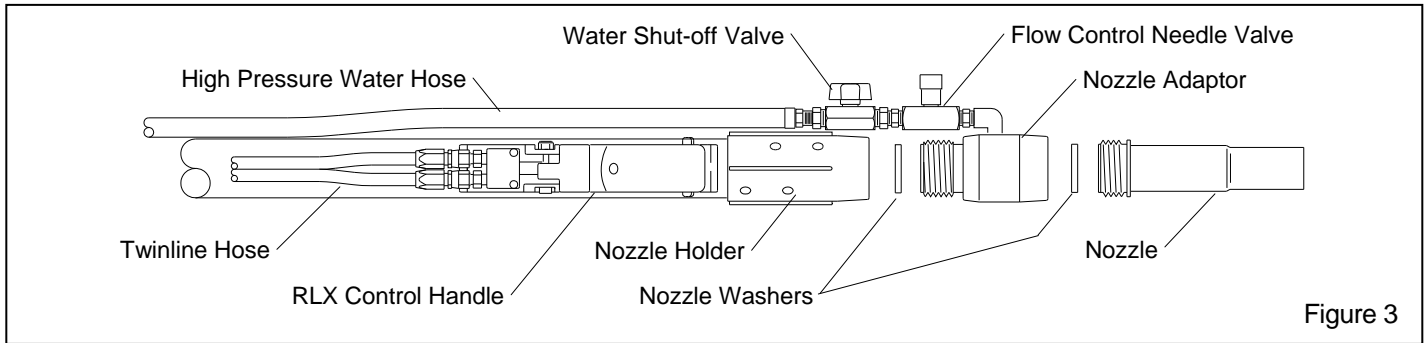

Figure 3
2.1.4 Screw the wetblast adaptor into the nozzle holder. Make sure a nozzle washer is seated in the holder, ref. Figure 3. The injector flange should seat tightly against the washer.